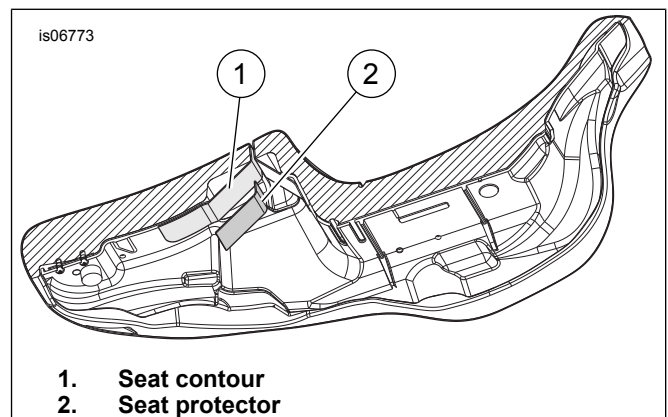

Figure 4. Underside of Seat
- Figure 4 Take note of the shape of the surface the seat protector (2) will cover and gently shape the protector to better fit the seat contours (1).